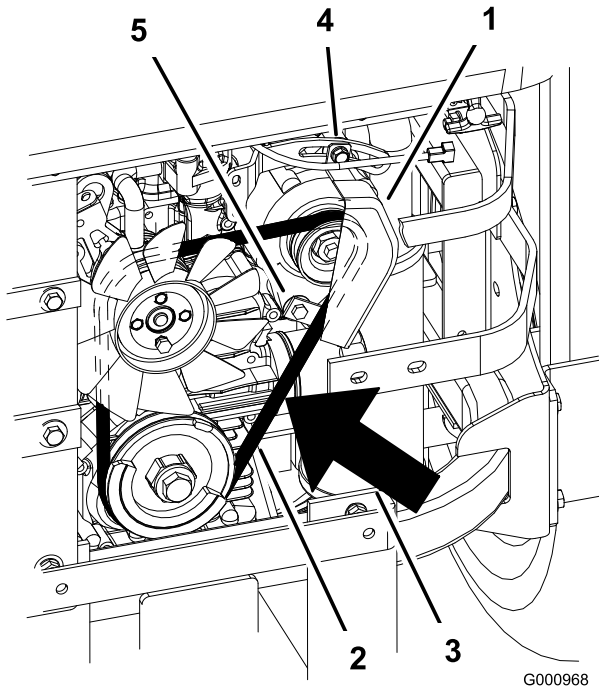

Figure 68
7. Loosen the bottom bolt and remove the upper bolt holding the alternator and cover (Figure 68).
9. Install a new belt around the pulleys and the alternator (Figure 68).
14. Tighten the bottom bolt and install the upper bolt holding the alternator and cover (Figure 68).
2. Adjust the alternator to the outside until there is 1/4 to 11/32 inch (7 to 9 mm) deflection in the belt between the engine and the alternator pulleys with 22.1 lbs of force (10 kgf) (Figure 68).
5. If the deflection is correct, tighten the bottom and upper bolt (Figure 68).